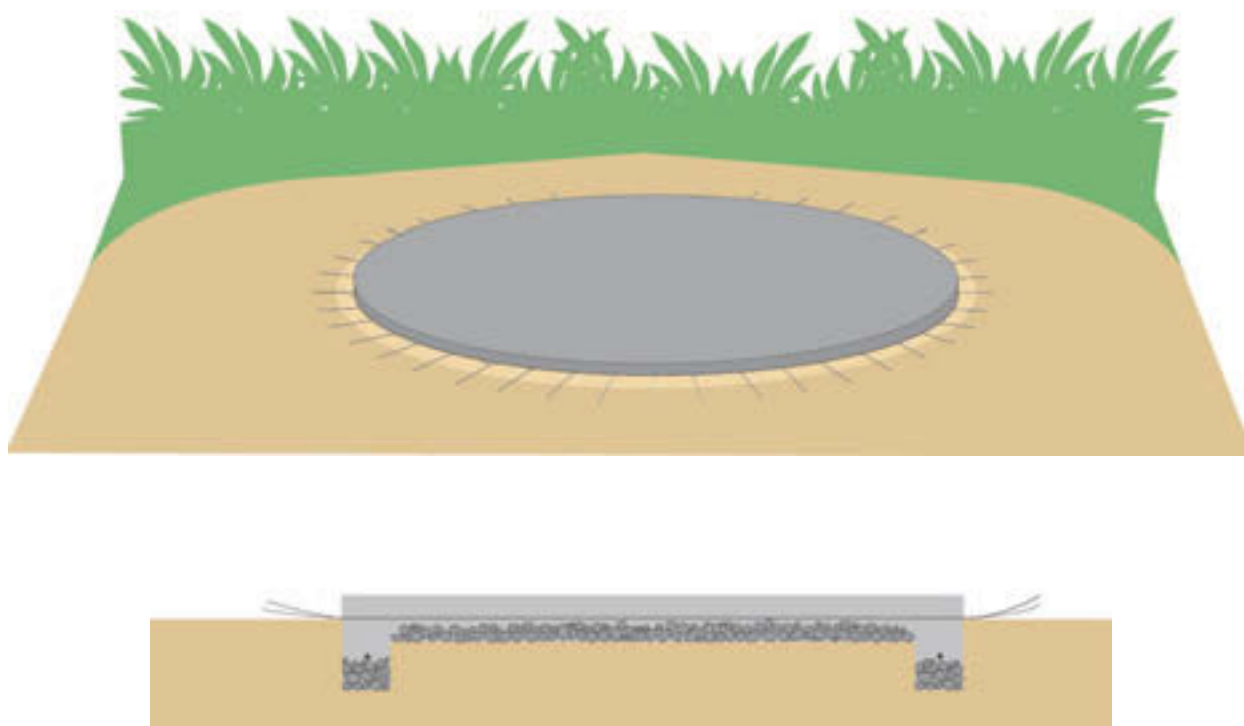

Fig. 24: The completed base (front and section view)
6. Once the reinforcement is in place, line the foundation with strips of sheet metal 0.05 m high, Mix a batch of concrete (1:3:5 cement:sand:gravel) with waterproofing compound and pour the concrete onto the base. Make sure the excess wires are not covered by concrete. Let the base cure overnight. The next day, remove the rebar stakes, the rebar hoop and the strips of sheet metal. See figure 24 for image of completed tank base.